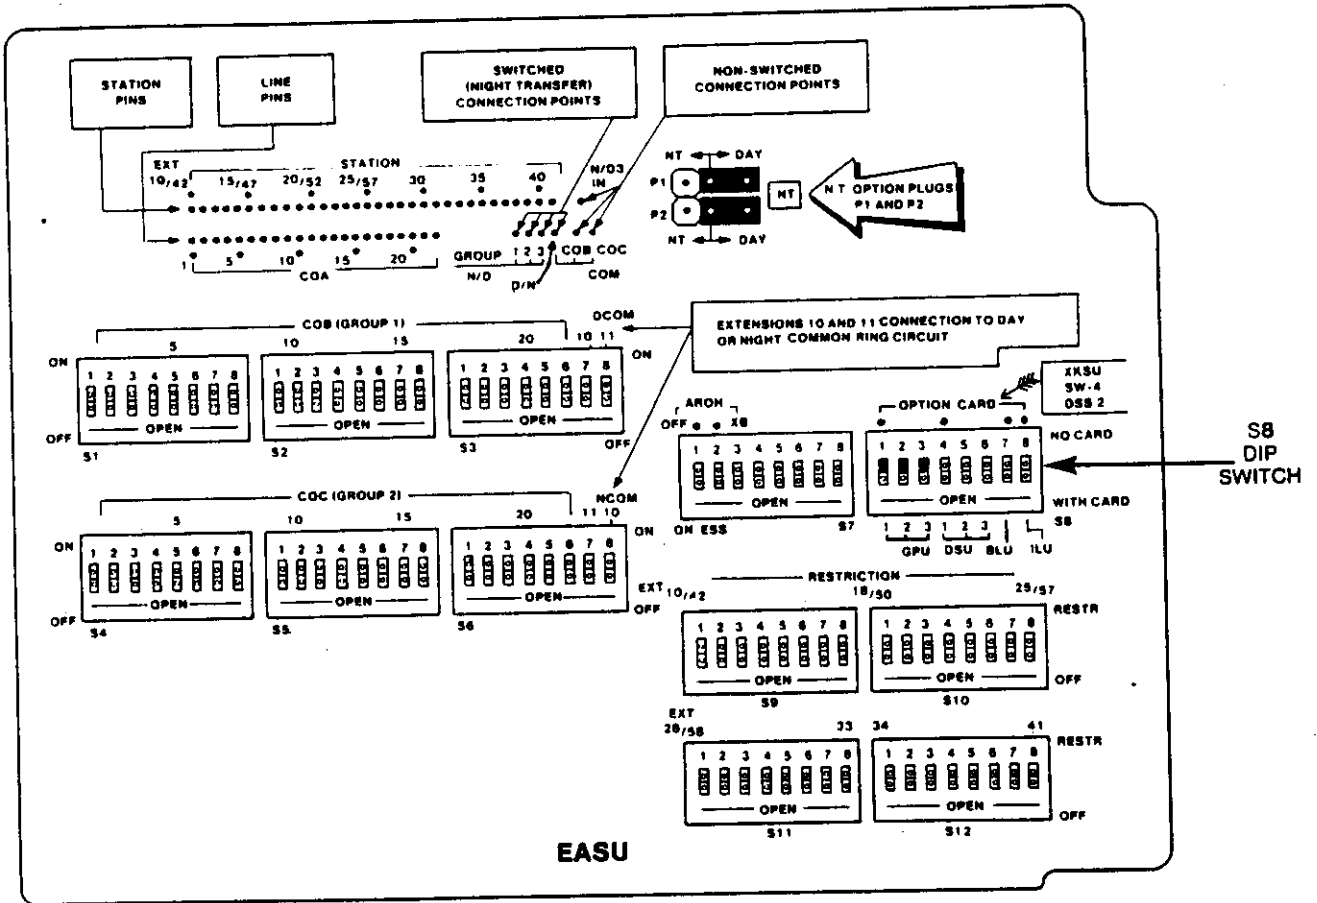

FIGURE 6 - EASU PCB PROGRAMMING DIP SWITCH LOCATIONS
3.3.4 If an EASU PCB is to be installed without an EGPU PCB in the system, set rockers (1), (2) and (3) of dip switch (S8) in the "NO CARD" position as shown in Figure 6. Proceed to paragraph 4.